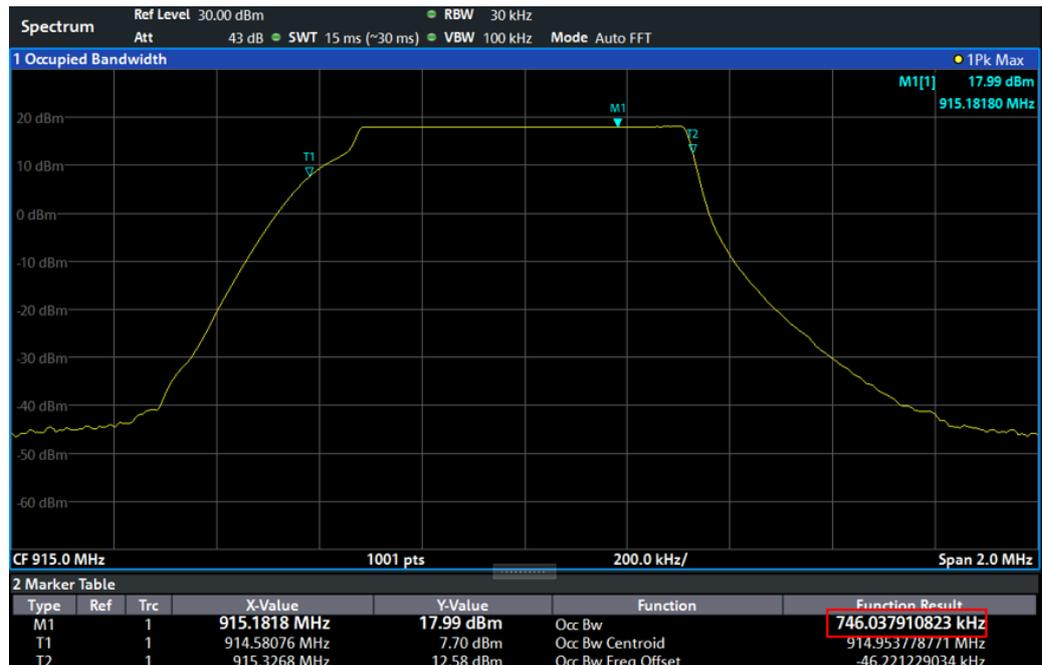

Figure 2-5: Measurement of OBW with SF = 12
13. Note down the measured value for $\text{Occ BW} = \text{OBW}_{\text{SF12}}$ (Figure 2-5).
13. Press the *Span* key and set the span to at least $1.5 \times OBW_{SF12}$ from 2.1.3 (Figure 2-5).